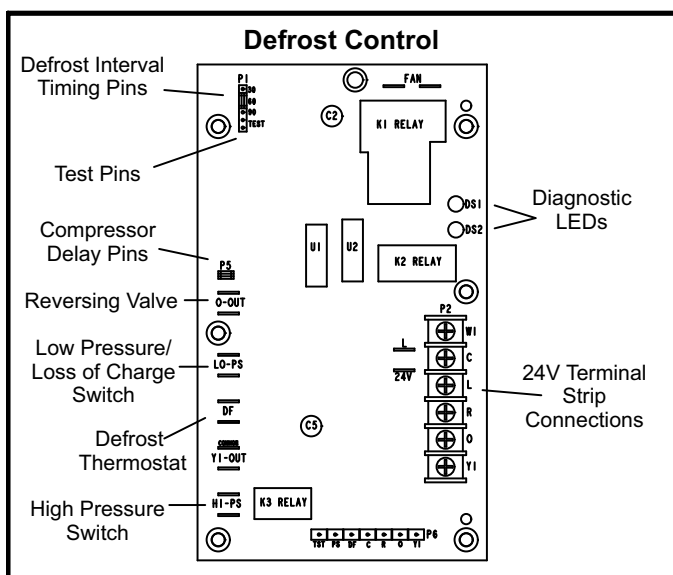

FIGURE 12
LRP14HP/DF and LRP16HP units are equipped with a defrost control that includes the combined functions of time/temperature defrost control, defrost relay, diagnostic LEDs and a low voltage terminal strip. See figure 12.
**-1 Builds:** the **defrost timing jumper** is factory-installed to provide a 90-minute defrost interval. **-2 Builds:** the **defrost timing** is factory set to provide a 30-minute defrost interval. If the timing selector jumper is not in place, the control defaults to a 90-minute defrost interval. The maximum defrost period is 14 minutes and is not adjustable. See figure 12 for the location of the defrost interval timing pins.